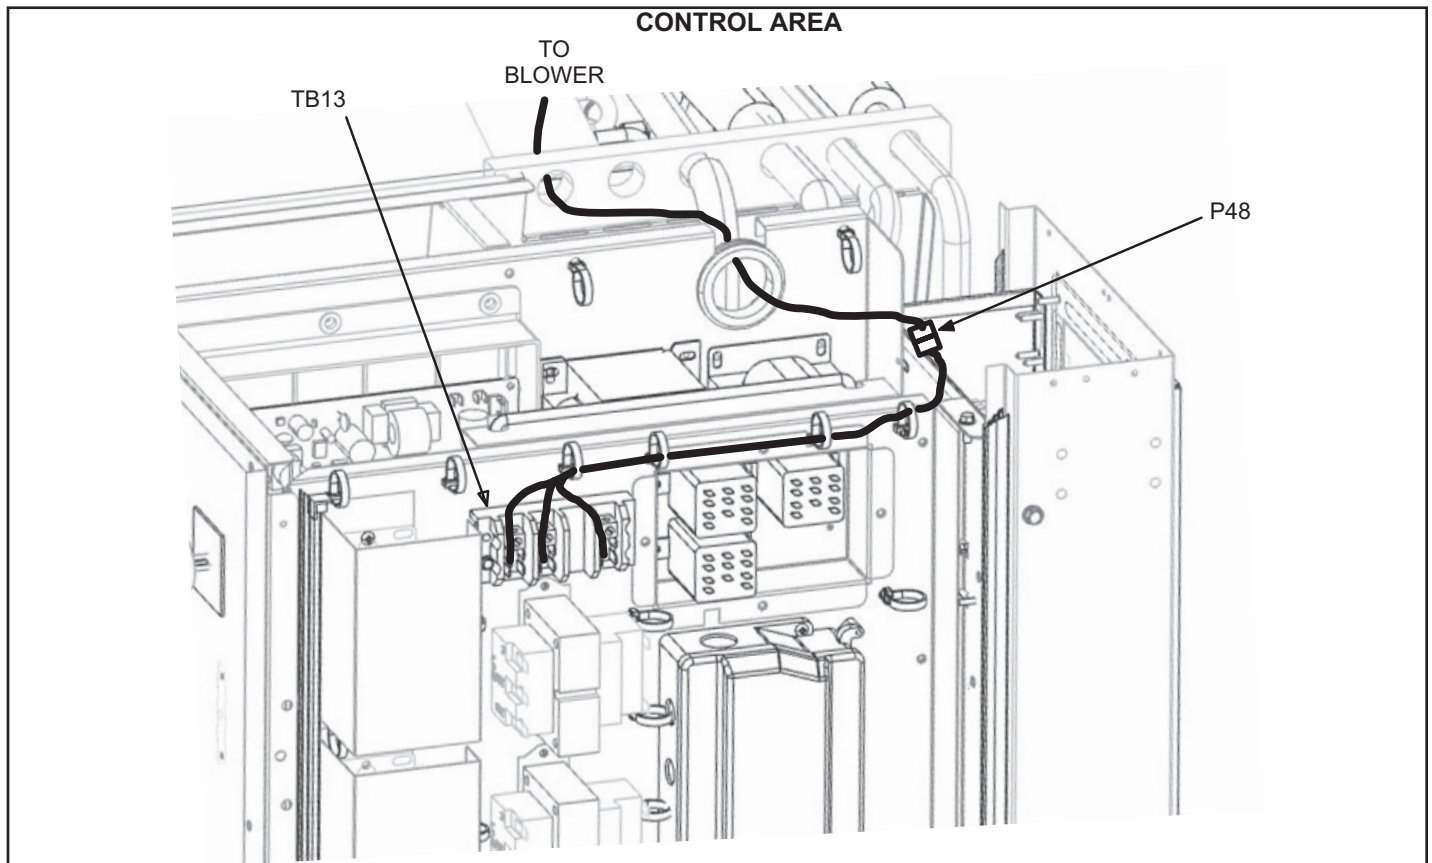
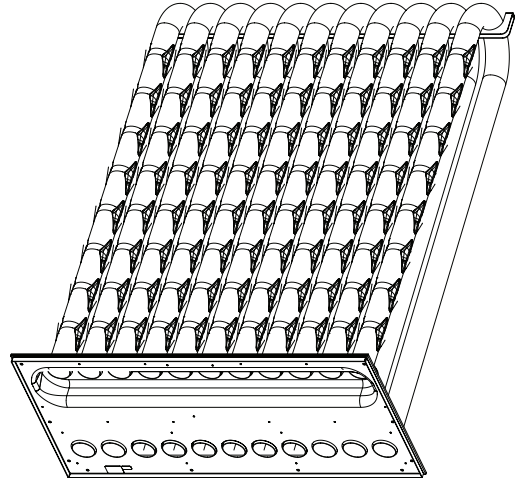

FIGURE 4
FIGURE 8
- 4 - Disconnect P48 in the controls area. See figure 4.
Offset-Dimple Heat Exchangers (figure 8)
- 1 - *G-Volt Units* - Connect J48 power harness to P48 (previously routed from replacement blower). See figure 4.
- 2 - *J-Volt Units* - Remove and discard existing J48 harness routed to TB13. See figure 4. Make kit harness connections as shown in figure 8.